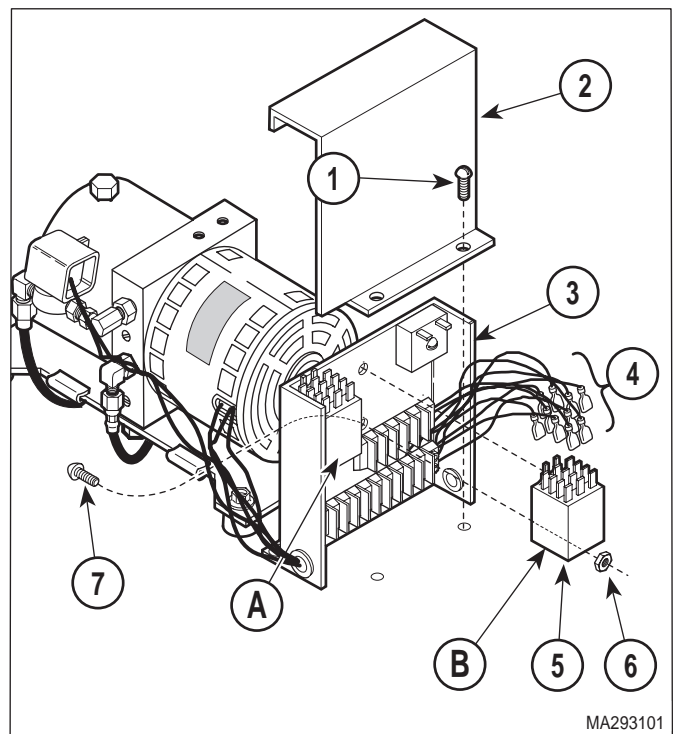

Figure 4-25. Auto Return Relay [CR2] or Manual Functions Relay [CR1] Removal / Installation
- (1) Unplug power cord from wall outlet.
- (2) Remove motor cover assembly (Refer to para 4.2).
- (3) Remove two screws (1, Figure 4-25) and control cover (2) from control panel (3).